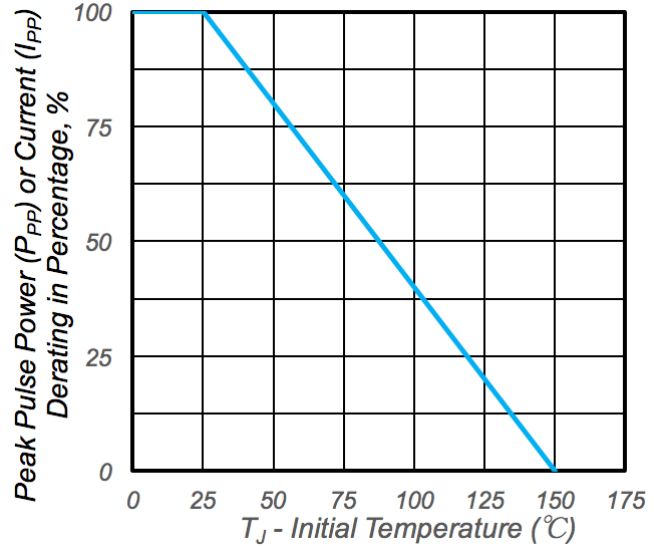
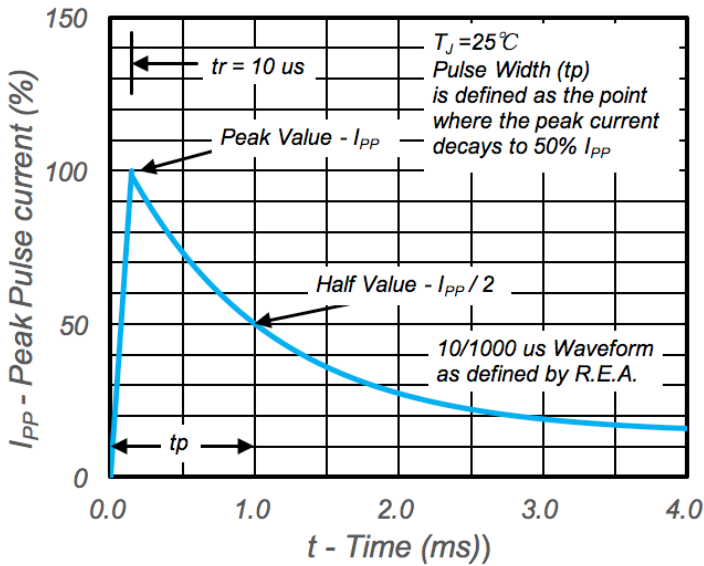

Fig.2 - Pulse Derating Curve
Fig.3 - Pulse Waveform
1. Non-repetitive current pulse, per Fig.3 and derated above  $T_A=25^\circ\text{C}$  per Fig.2.